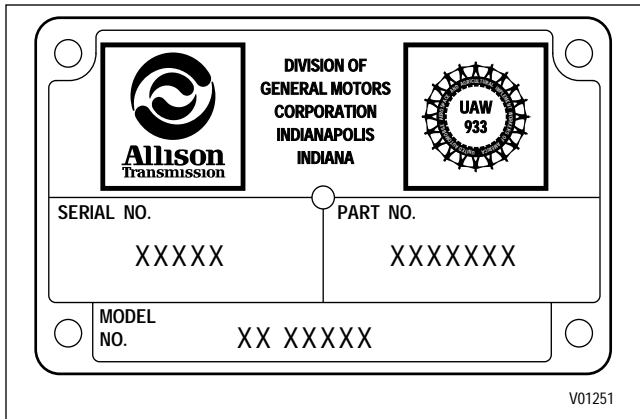

Figure 1-5. Transmission Nameplate
a. Transmission Nameplate. The nameplate (Figure 1-5) is located on the right-rear side of the transmission. The nameplate shows the transmission serial number, part number (assembly number), and model designation, all three of which **must be supplied** when ordering replacement parts or requesting service information.